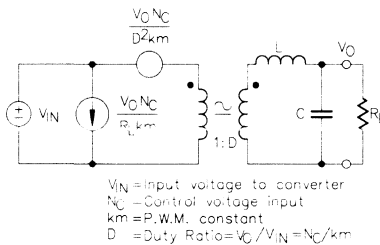

Figure 6. Linear Equivalent Circuit
In experimentally attempting to confirm satisfactory operation of the output stages, the designer hopes to prove that a linear equivalent circuit model is valid for reasonable analysis. One such model as proposed by Middlebrook(9) is shown in Figure 6. This model describes the overall AC and DC transfer function and input and output impedances in terms of the duty cycle and modulation constant. This model assumes that the effects of operating frequency, switching delays, and parasitic elements are well above the frequencies of interest as defined by the output LC filter.